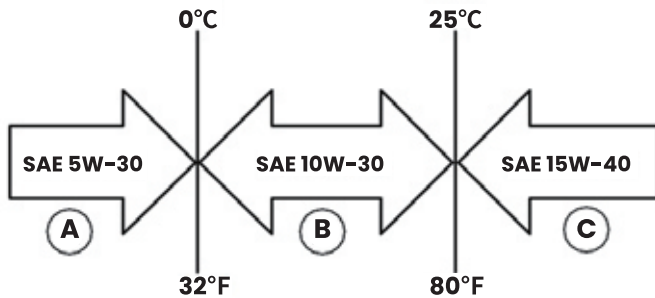

Figure 11: Recommended Oil
1. Only use the engine oil specified in Figure 11.
7. Select the proper engine oil as specified in Figure 11.